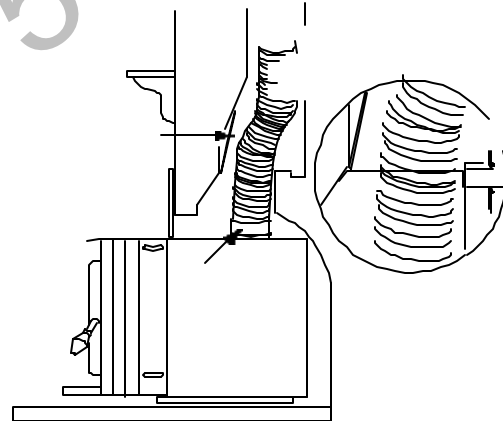

FIGURE 11 **MODEL 1401 Illustrated**
2. Measure the throat of the fireplace and mark this shape on a piece of 24 gauge sheet metal (flue cover); cut a six-inch (150mm) hole to lie directly below the fireplace flue opening. Allow two inches of material for a flange on all sides and cut to these measurements. Bend down the flanges. If you have never done this before, it might be a good idea to make a cardboard pattern and test it first. Fasten this flue cover in position as high as possible with two masonry screws per side through the flanges into the fireplace. **FIGURE 11**.